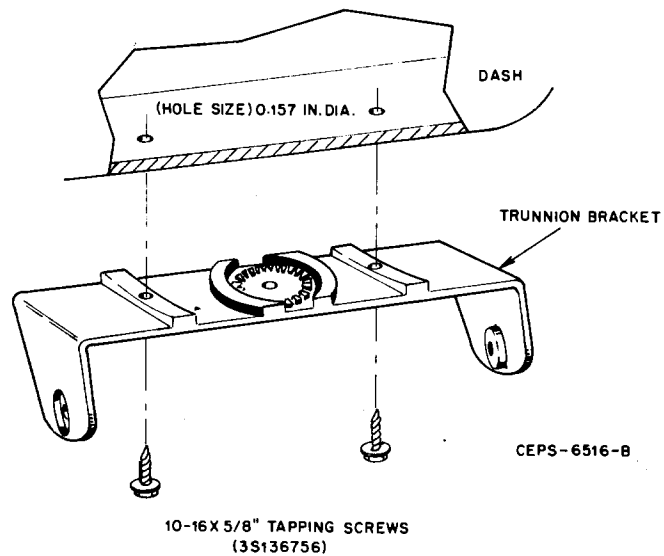

Figure 9.
b. Installation Procedure (Refer to Figure 9)
(1) Determine the location for mounting the control head.
(2) Remove the trunnion bracket and retainer assembly from the control head by removing the two trunnion side screws.